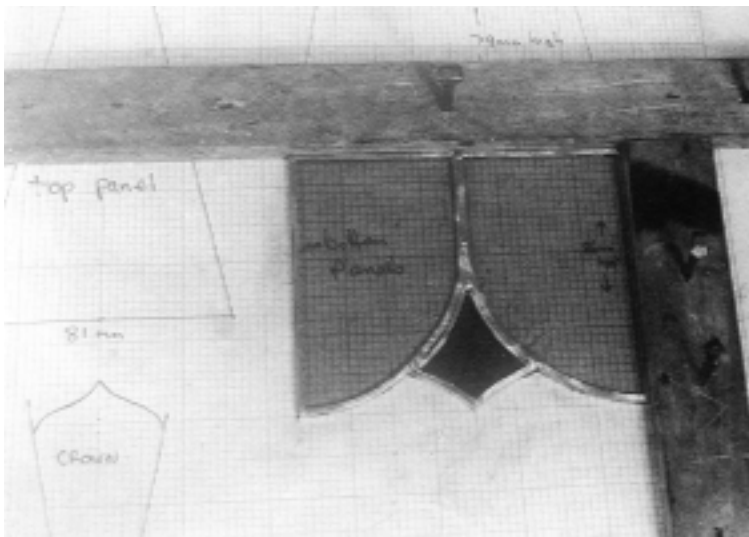

Fig 14.4
5. Tack D, E, and F panels together over the pattern or a copy of it. Use battens as a jig to ensure each set will be the same width (109mm). Solder over the back of these panels and then raise a beading on the front which will be on the outside of the lamp. These pieces can be handled as one panel from now on (fig 14.4).